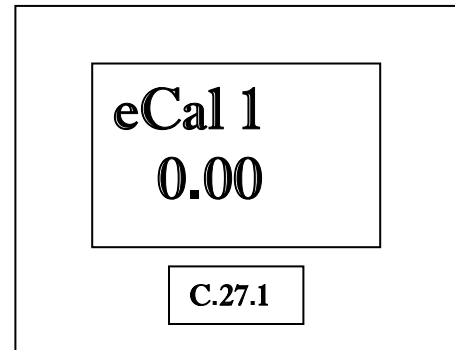

Figure 28
1. After the Manager's Mode has been accessed, press the number 2 and 7, then the **MODE** button on the keypad. The display shown in Figure 28 appears.
1. After the Manager's Mode has been accessed, press the number 5 and 0, then the **MODE** button on the keypad. The display shown in Figure 28 appears.